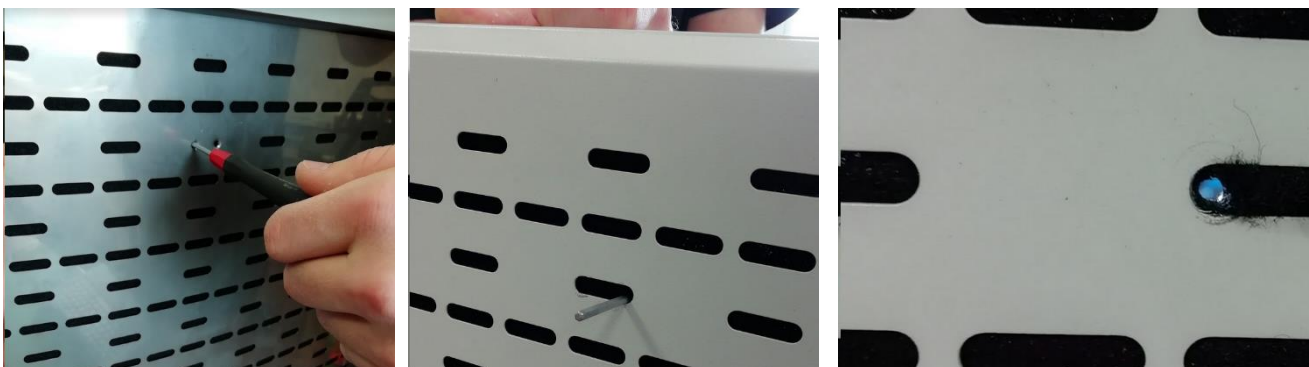

Fig. 18 Making holes in the filter
11. Use a sharp tool or a screwdriver to make a hole in the filter to screw the panel to the top cover (Fig. 18).